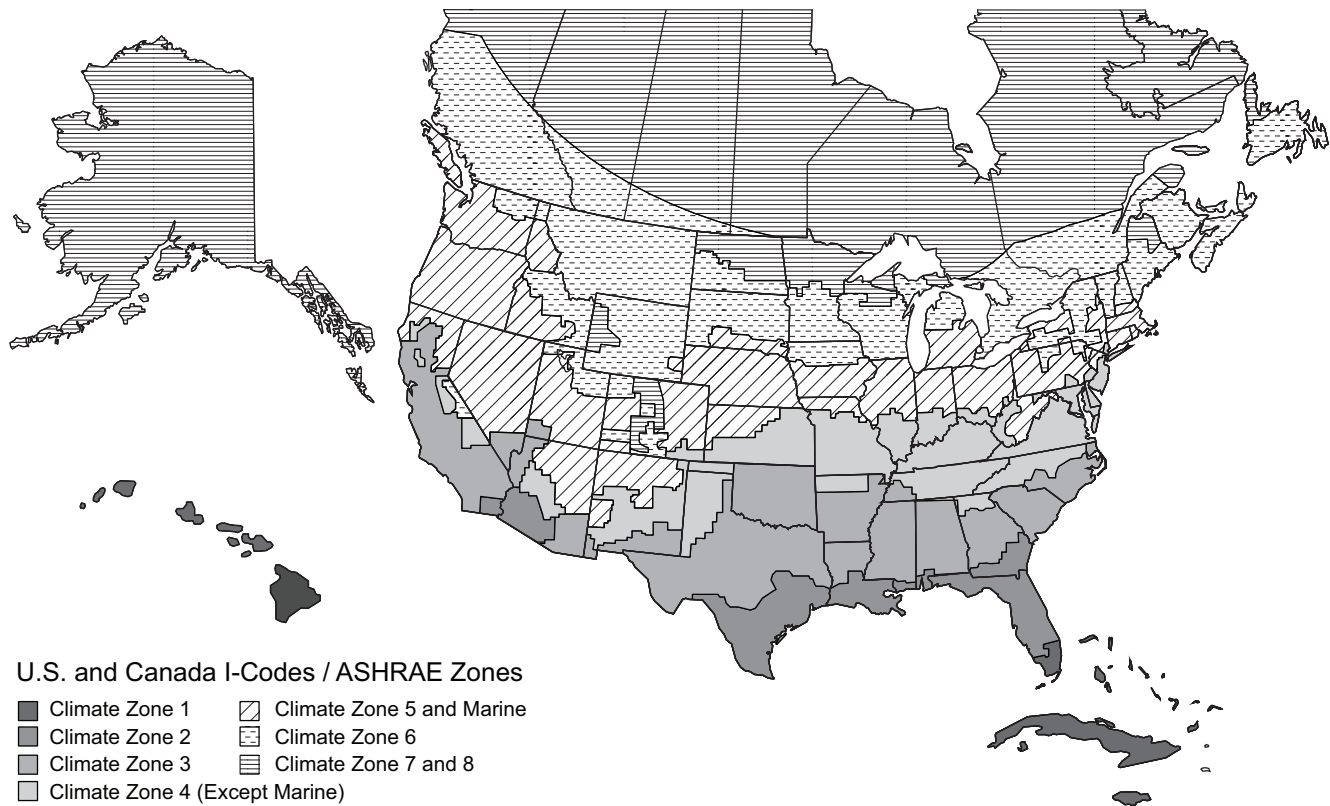

Fig. 72 — U.S. and Canada Climate Zones
- a. See Fig. 72 for map of U.S. and Canada climate zones.